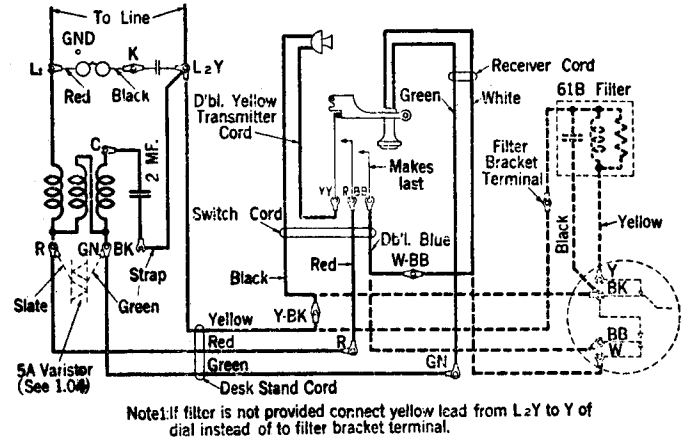

Fig. 1 —51AL Sidetone Desk Stand For Anti-Sidetone Service (Manual and Dial)
1.02 No changes are required in the connections of sidetone desk stands and only a few changes in the connections to the anti-sidetone subscriber sets (bell boxes) as shown by the typical case (Fig. 1).
1.03 A sidetone desk stand, used with an anti-sidetone subscriber set to obtain the equivalent of an anti-sidetone circuit, should be connected as shown by the typical case in Fig. 1. Its use should be restricted to individual lines without extensions and only one low impedance or two high impedance ringing bridges are permitted on the line.